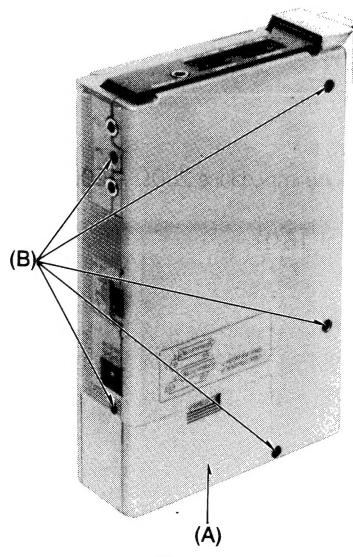
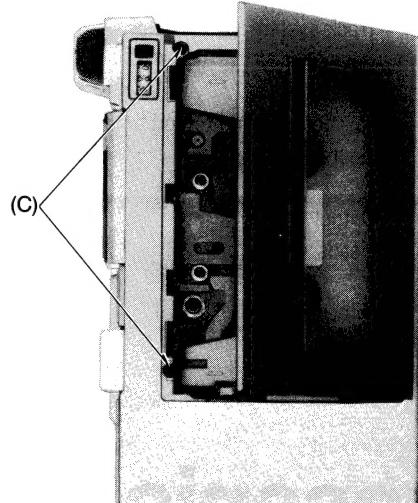
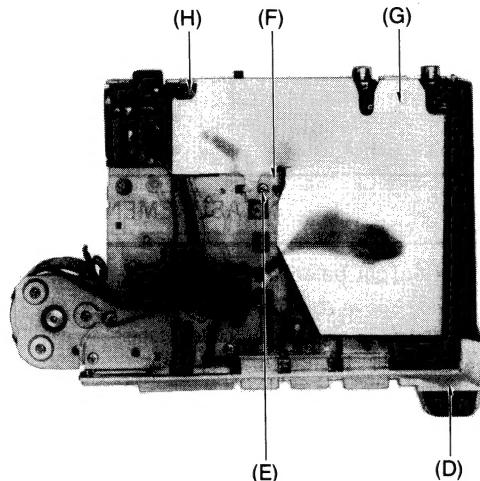

Fig. 1
Fig. 2
Fig. 3
2. While the chip is hot remove it by turning with tweezers as shown in fig. 1.
Place solder on the foil chip mounting, and solder the chip while applying the soldering iron in the direction of the arrow, as shown in the diagram (fig. 2).
Head azimuth adjustment Condition: * Playback mode Equipment: * VTVM      * Oscilloscope * Test tape (azimuth) ... QZZCFM	<p>L-CH/R-CH output balance adjustment</p> <p>1. Make connections as shown in fig. 1 and 2.</p> <p>2. Playback the 8kHz signal from the test tape (QZZCFM). Adjust screw (A) in fig. 3 for maximum output L-CH and R-CH levels. When the output levels of L-CH and R-CH are not at maximum at the same time, readjust as follows.</p> <p>3. Turn the screw shown in fig. 3 to find angles A and C (points where peak output levels for left and right channels are obtained). Then, locate the angle B between angles A and C, i.e., a point where L-CH and R-CH output levels come together at maximum. (Refer to figs. 3 and 4.)</p> <p>Fig. 1</p> <p>Fig. 2</p> <p>Fig. 3</p> <p>Fig. 4</p> <p>Fig. 5</p> <p>Fig. 6</p> <p>Fig. 7</p>
Tape speed accuracy adjustment Condition: * Playback mode Equipment: * Digital electronic counter or frequency counter * Test tape ... QZZCWAT	<p>Tape speed accuracy</p> <p>1. Test equipment connection is shown in fig. 2 and 7.</p> <p>2. Playback test tape (QZZCWAT 3,000Hz), and supply playback signal to frequency counter.</p> <p>3. Take measurement at middle section of test tape.</p> <p>4. Measure this frequency.</p> <p>5. On the basis of 3,000Hz, determine value by following formula:</p> $\text{Tape speed accuracy} = \frac{f - 3,000}{3,000} \times 100 (\%)$ <p>where, f = measured value</p> <p>Standard value: <math>\pm 2.5\%</math></p> <p>6. If measured value is not within standard, adjust tape speed adjustment VR (shown in electrical parts location), so that frequency becomes 3,000Hz.</p>